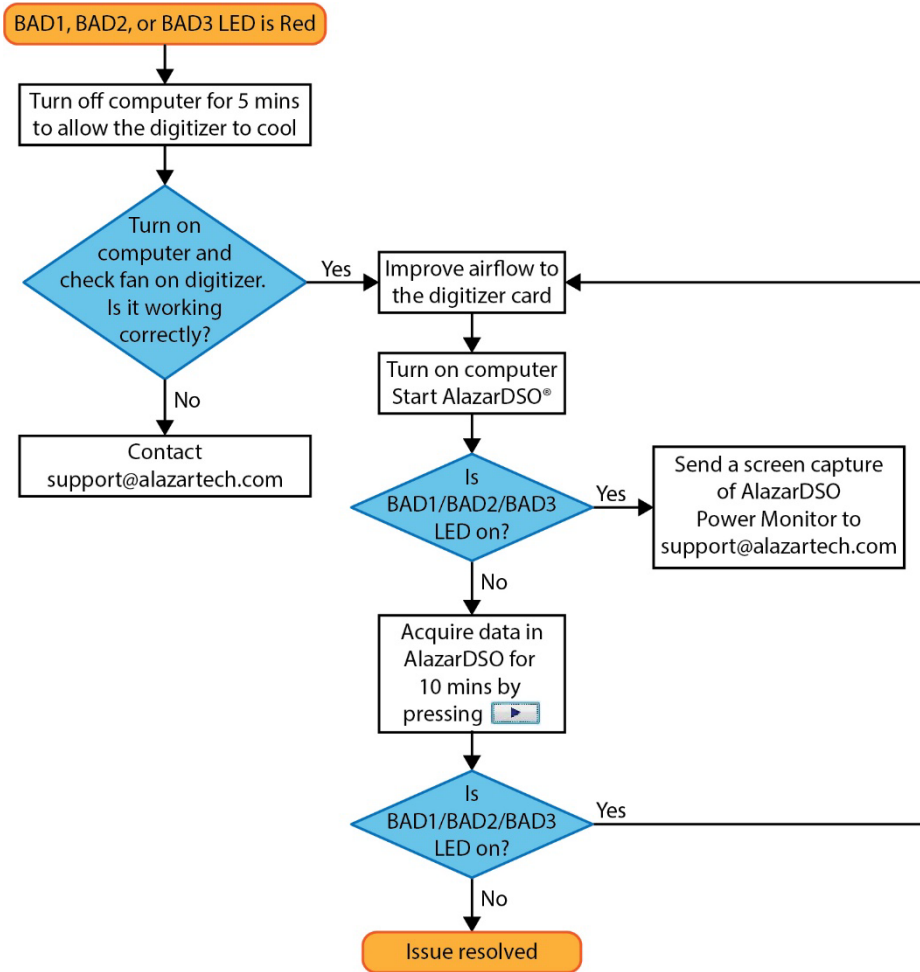

Figure 4 - Flowchart for Power Monitor Status LEDs
- **BAD3 (LED2):** Power Monitor error output from the board. This LED being red indicates that there is an overheating or power supply issue. More details are available in the Power Monitor plug-in of AlazarDSO (for Windows) and Alazar Front Panel (for Linux). Refer to Figure 4 - Flowchart for Power Monitor Status LEDs for steps to follow if this LED is red.
- **BAD1 (LED3):** Power Monitor error output from the board. This LED being red indicates that there is an overheating or power supply issue. More details are available in the Power Monitor plug-in of AlazarDSO (for Windows) and Alazar Front Panel (for Linux). Refer to Figure 4 - Flowchart for Power Monitor Status LEDs for steps to follow if this LED is red.
- **BAD2 (LED4):** Power Monitor error output from the board. This LED being red indicates that there is an overheating or power supply issue. More details are available in the Power Monitor plug-in of AlazarDSO (for Windows) and Alazar Front Panel (for Linux). Refer to Figure 4 - Flowchart for Power Monitor Status LEDs for steps to follow if this LED is red.